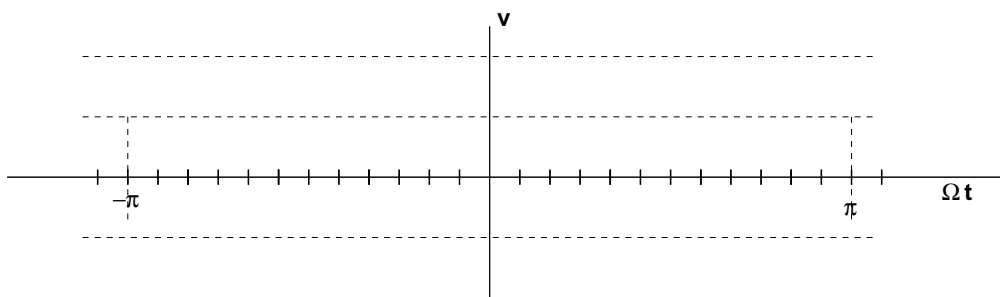

Figure 4: Your answer for voltage vs. rotor position for a 5/6 pitch winding
2. Now assume that the stator winding still has 20 turns, but is short pitched so make it a $5/6$ pitch winding. Find and sketch the voltage on Figure 4